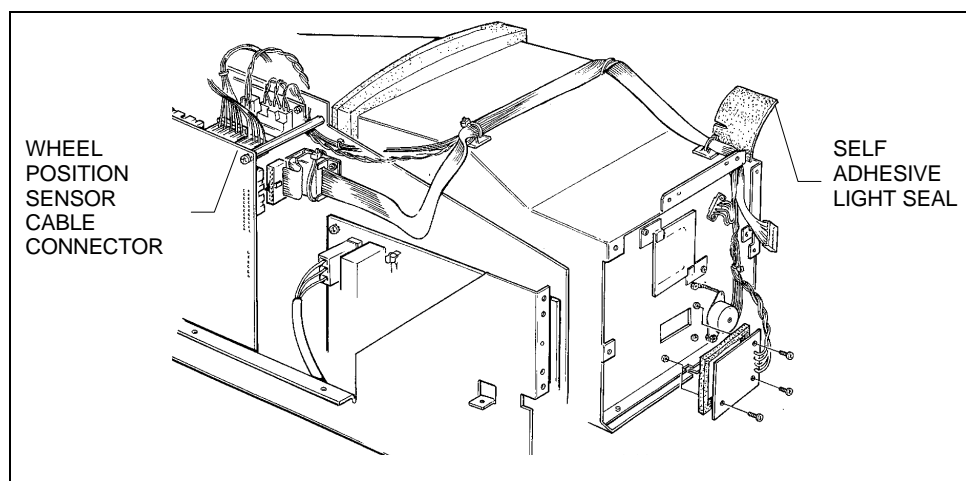

Figure 6-14. Removing the wheel position sensor cable
2. Carefully peel back the self-adhesive light box seal at the top right corner of the Front Panel Assembly. Fold it back far enough to expose the cables under it. (Figure 6-14)